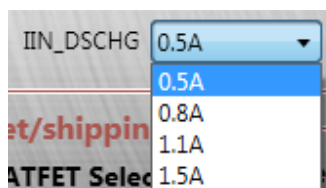

Figure 22: Setting the OTG Current Limit
- The default value is 0.5A (see Figure 22).